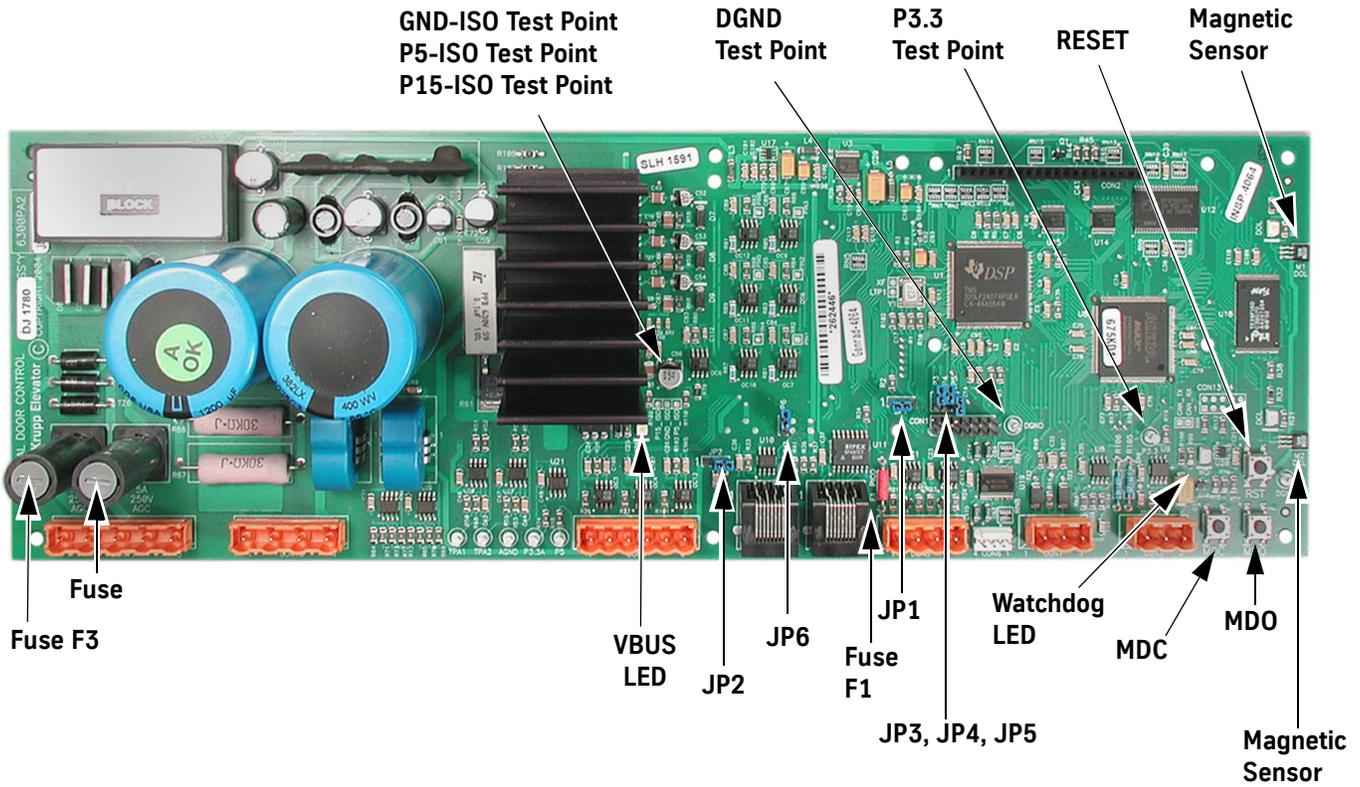
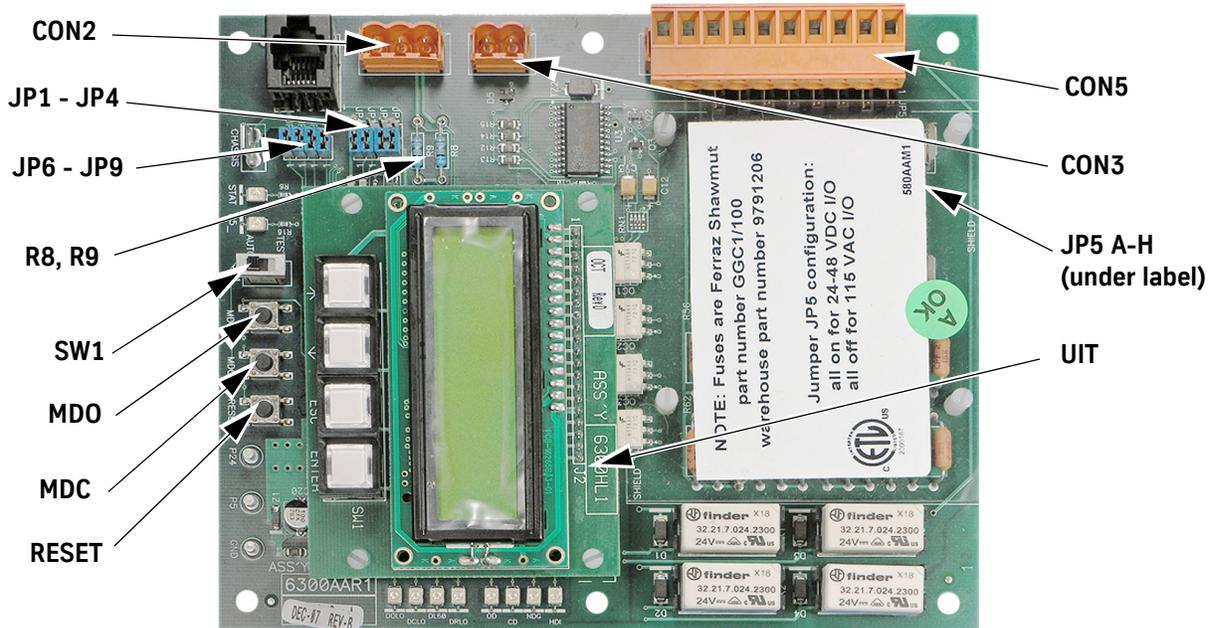

Figure 14 - 6300PA7 Door Operator Card
Figure 15 - 6300AAR Remote UIT_I/O Card
13. Verify that the configuration jumpers on the door card are installed per Table 3. See Figure 14 and Figure 15 on page 28 for jumper locations.